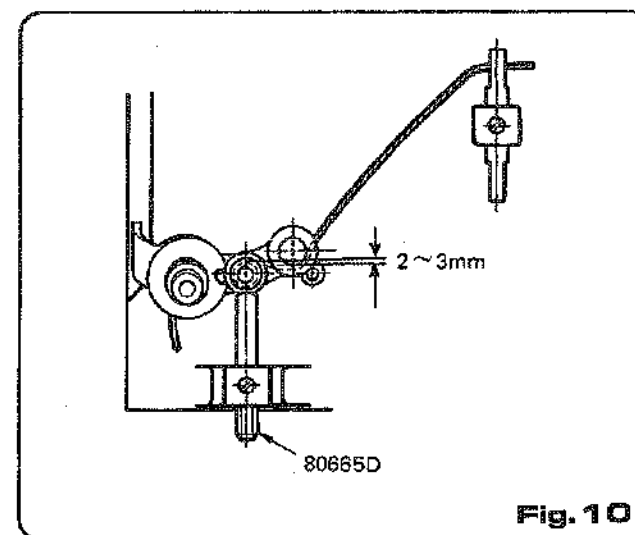

Fig. 10
4-6 縫い目巾の調整 (Fig. 10)
Adjust the rolling needle thread guide assembly (80665D) so that the needle thread is raised by 2 to 3 mm, as shown in (Figure 10), when the needle is low.
- b) 上糸調節 (Fig.10)